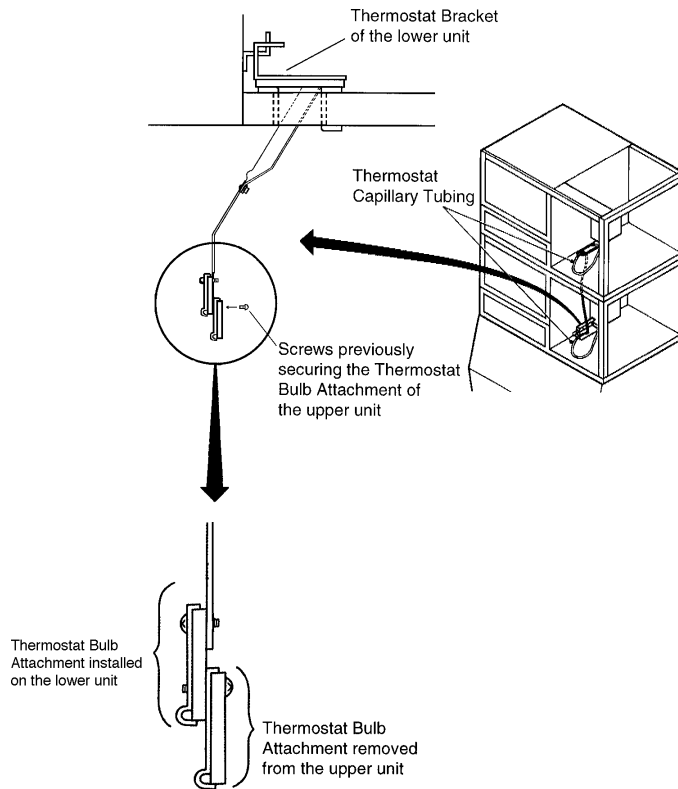

Fig. 5
- 8) Route the Bin Control Thermostat Capillary Tubing of the upper unit through the bottom hole of the upper unit and into the lower unit and then through the bottom hole of the lower unit into the Bin. Secure the Thermostat Bulb of the upper unit, complete with its attachment, to that of the lower unit with the screws previously removed from the upper unit. (See Fig. 5.)